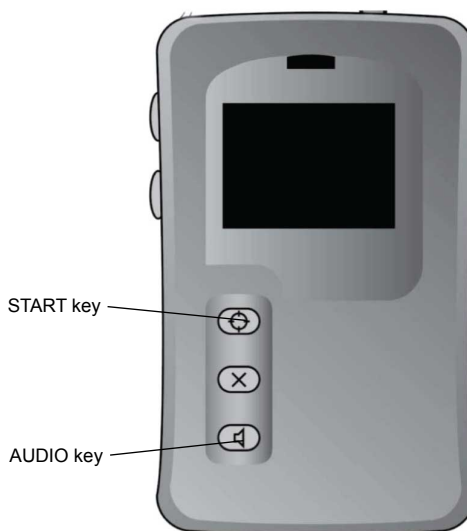

Figure 47. *Recharger.*
2. Simultaneously press and hold down the START key and AUDIO key located on the front of the recharger (Figure 47) for 10 seconds. A screen with a 60 minute timer will appear, and charging begins.